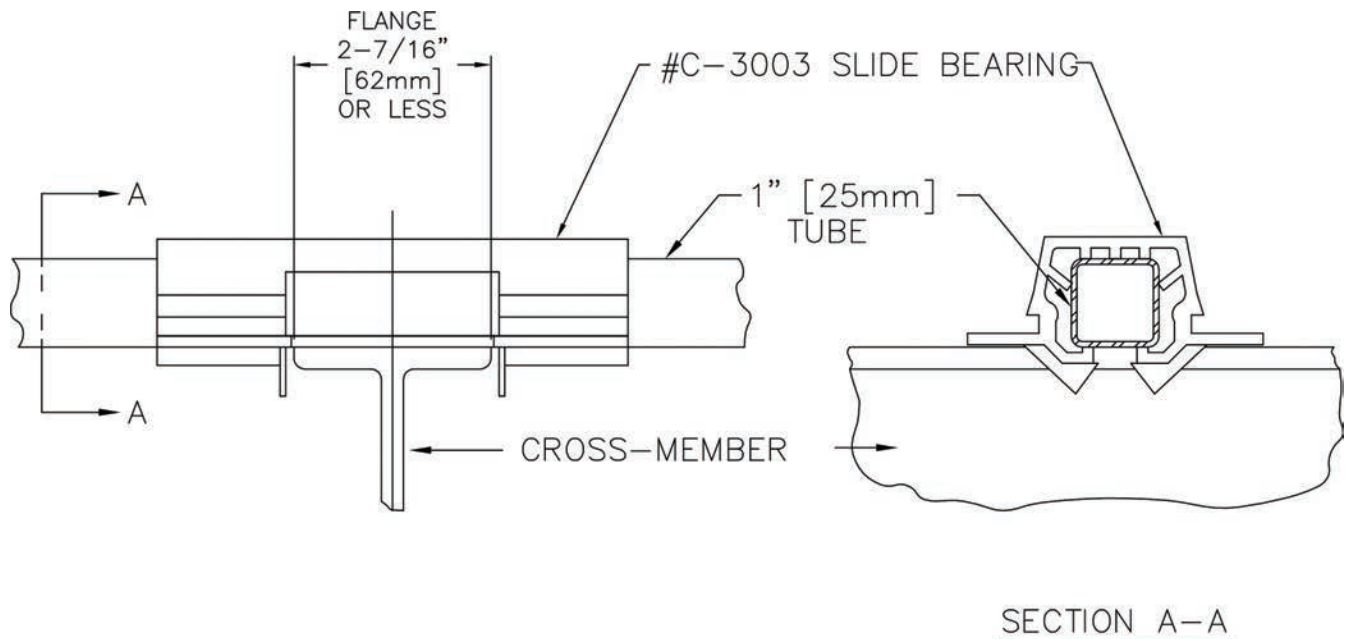

Figure 4
- 2) Check the cross-member flange width for proper bearing fit (Figure 4).